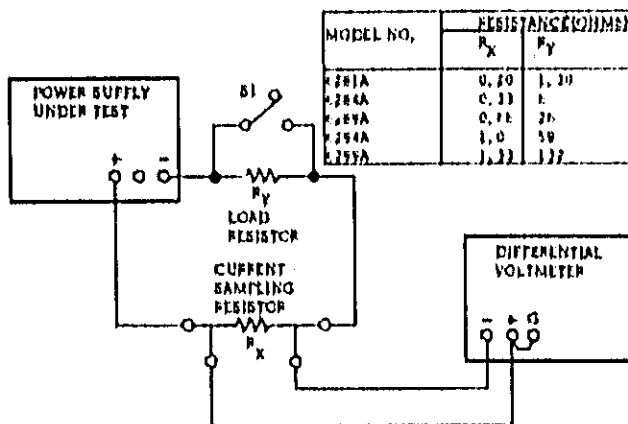

Figure 5-4. Output Current, Test Setup
a. Connect test setup shown in Figure 5-4 leaving switch S1 open.
- Connect test setup as shown in Figure 5-4.
a. Utilize test setup shown in Figure 5-4 leaving switch S1 open throughout test.
a. Use test setup shown in Figure 5-4, except connect AC voltmeter across sampling resistor instead of differential voltmeter.